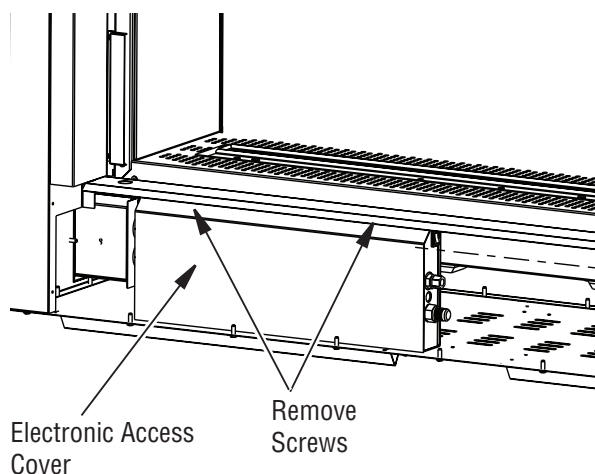

Figure 23 - Removing Control Access Cover (Face Bottom not shown for Clarity)
2. Remove 2 screws on top of the electronic access cover (See Figure 23).